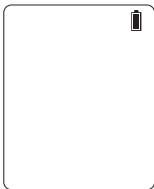

Figure 8
1. Replace battery when “” flashes in the upper right corner of LCD display. (See Figure 8)